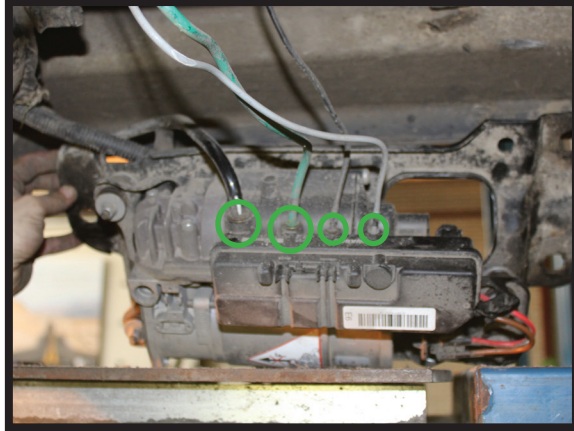

FIGURE 8
8. DISCONNECT THE AIR LINES FROM THE COMPRESSOR BY PUSHING EACH LINE INTO EACH FITTING AND PULLING EACH TO REMOVE. (FIGURES 8, 9)